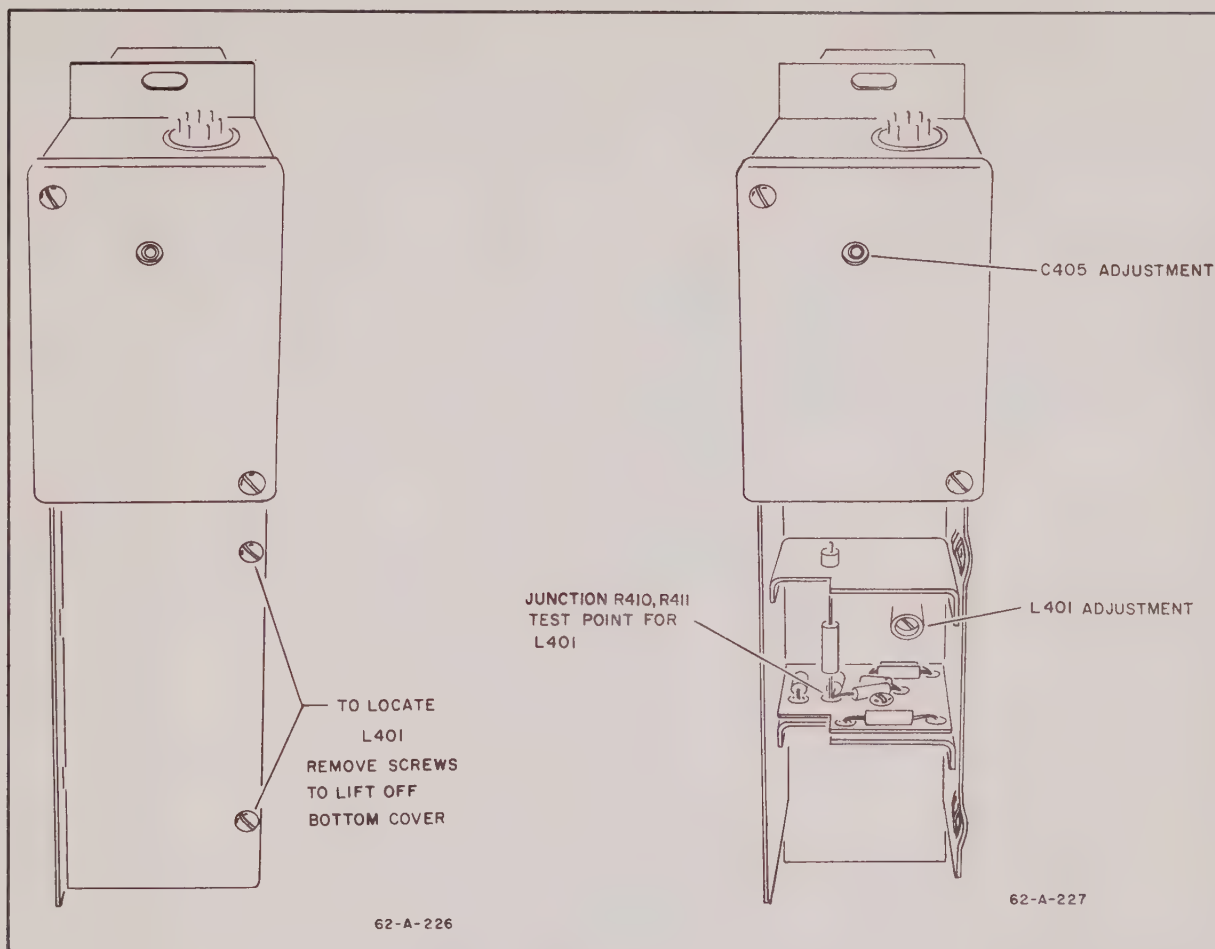

FIG. N-2. Illustrates location of N modification adjustments.
- 1) Remove the bottom cover from the N modification assembly as shown in Figure N-2 and locate the L401 adjustment.
- 2) Use a VTVM to measure from the junction of R410 and R411 (see Figure N-2) to ground. Use minus polarity.
- 1) Use Figure N-2 as a guide to locate trimmer adjustment C405.